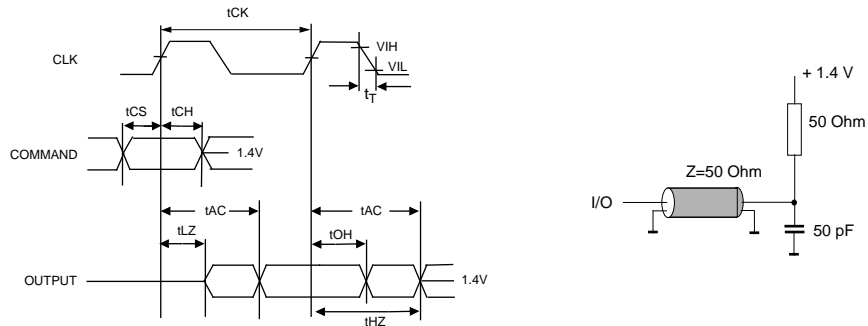

fig.1
2. AC timing tests have $V_{IL} = 0.8V$ and $V_{IH} = 2.0V$ with the timing referenced to the 1.4 V crossover point. The transition time is measured between V_{IH} and V_{IL} . All AC measurements assume $t_T=1ns$ with the AC output load circuit shown in fig.1.